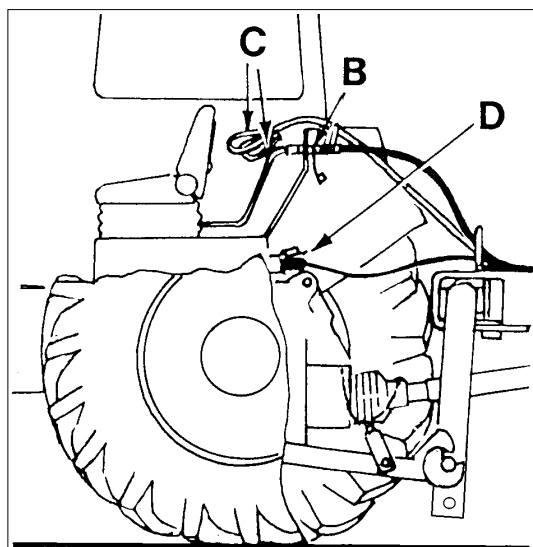

Fig. 3-5
- Connect the hydraulic system (B). Connect the unmarked hose pipe to the single-acting control unit (fig. 3-5).
- Route the unlocking cables (C) for the lateral machines in the tractor cab.
- Connect up the electric system (D).